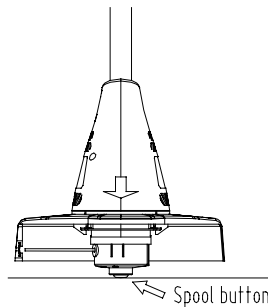

Fig 8
3. During use, the nylon line will become shortened or worn. To automatically lengthen or advance the nylon cutting line, tap the spool button lightly on ground (while the unit is running). (FIG 8)